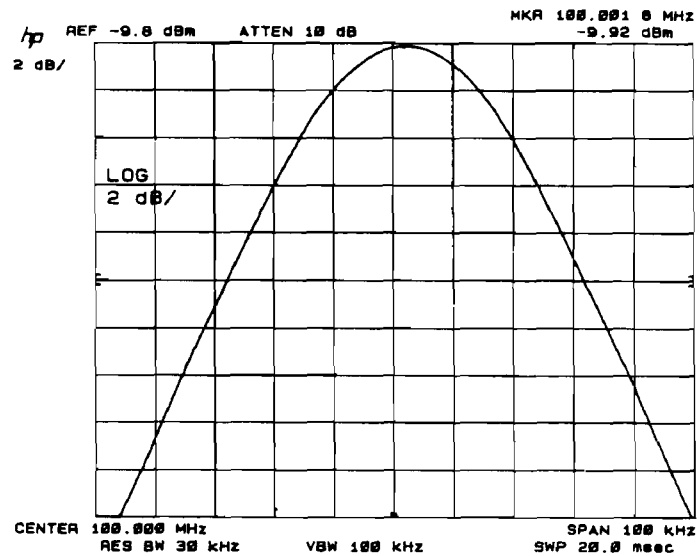

Figure 2-8. Log Scale Switching Uncertainty Measurement
6. Step up through the log scales with **(↑)**. At each step, press MARKER **(PEAK SEARCH)**, then record the marker amplitude in Table 2-8. Refer to Figure 2-8.